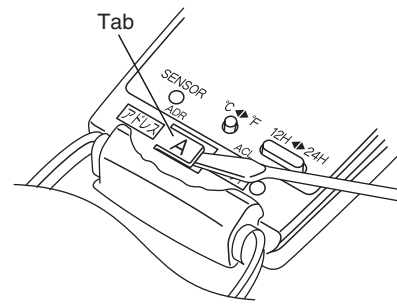
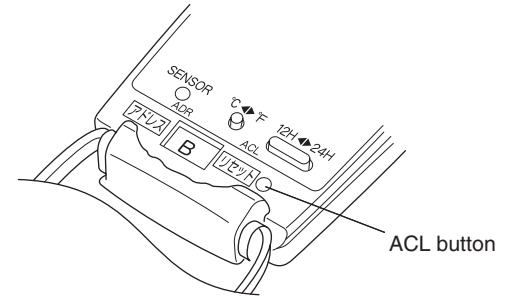

Fig. 13
Fig. 14
- (1) Switch on the power source.
- (2) Break the address-setting tab marked "A" on the second remote controller to change the address (Fig. 13). When the tab is removed, the address is automatically set to B (Fig. 14).
- (3) Press and hold the remote controller ION button and 1 HR TIMER button. At the same time, press the ACL(reset) button. Use a thin object such as the tip of a pen to press the ACL button. When this has been done, "oP-1" (test run) appears, blinking, in the remote controller clock display area.